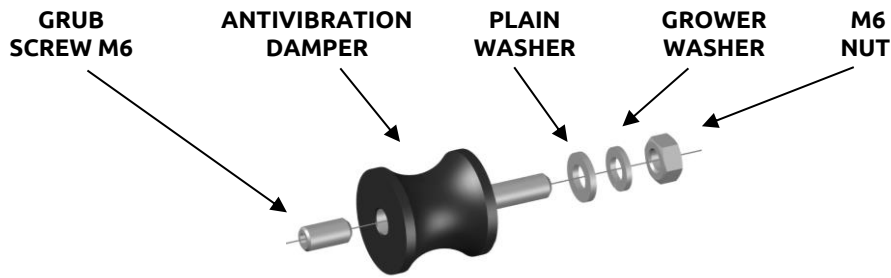

Figure 4
- Screw up the grub screw on the antivibration damper (**Fig. 4**).